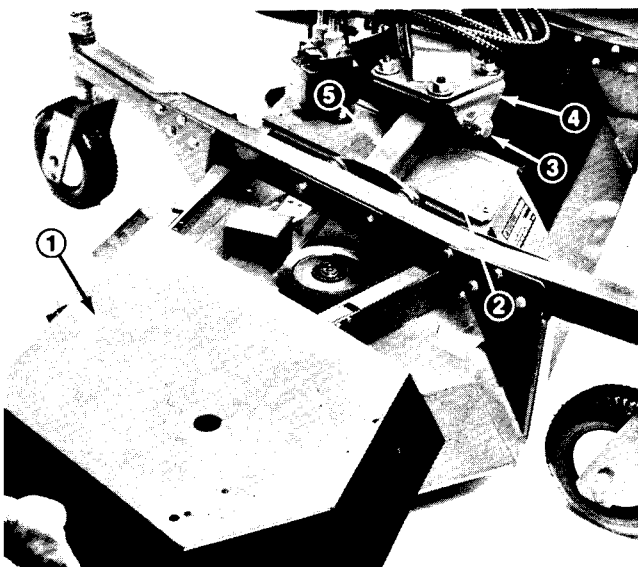

Figure 24
2. Remove belt covers. Relieve tension for belt on hydraulic motor pulley (Fig. 24).
4. Remove locknut securing cutting unit pivot shaft into cutting unit clevis and lift bar (Fig. 24).